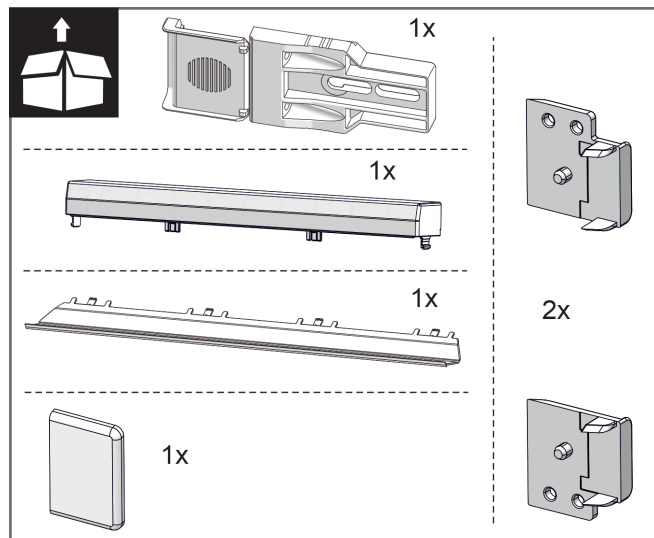
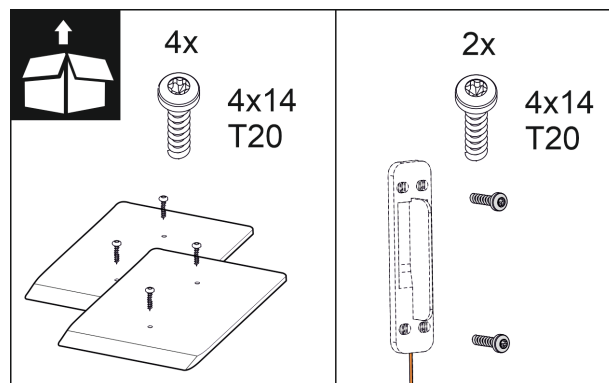

Fig. 10
Fig. 16
2. Check the assembly parts in the accessory kit. Fig. 10 () to Fig. 16 ()
Assembly parts in the accessory kit Fig. 10 () to Fig. 16 ()